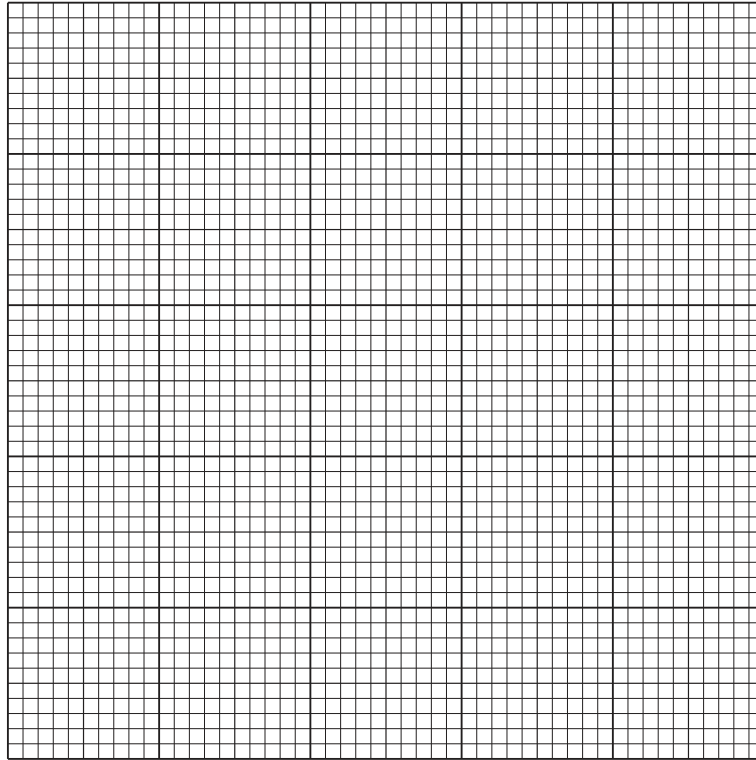

Fig. 1.3
- (i) Plot a graph of the data in Table 1.2 on the grid in Fig. 1.3.